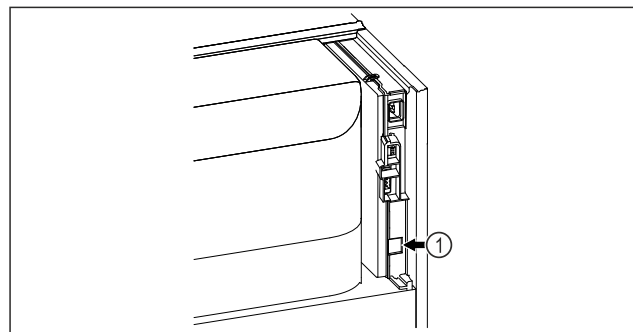

Fig. 59
- SmartModule Fig. 59 (1) is in use.